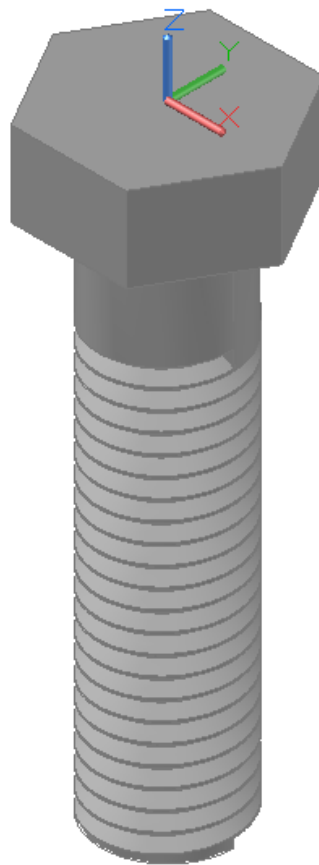

Figure Step 13
Step 13 Using the SUBTRACT command, subtract the solid thread, that you created in the SWEEP command, from the solid model to create the bolt. (Figure Step 13)